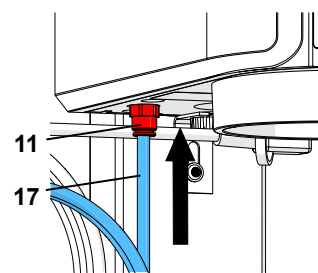

Fig. 5-a
In previous devices, the inlet filter (12) was situated outside the device (Fig. 5-b). In these cases, push the compressed air horse (17) onto the inlet filter (12). There will be a slight resistance to overcome when attaching.